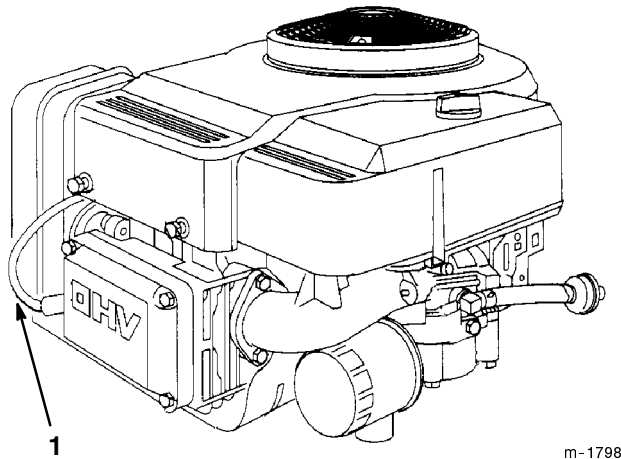

Figure 28
3. Pull the wire off of the spark plug (Fig. 28). Clean around the spark plug to prevent dirt from falling into the engine and potentially causing damage.
3. Push the wire onto the spark plug (Fig. 28).